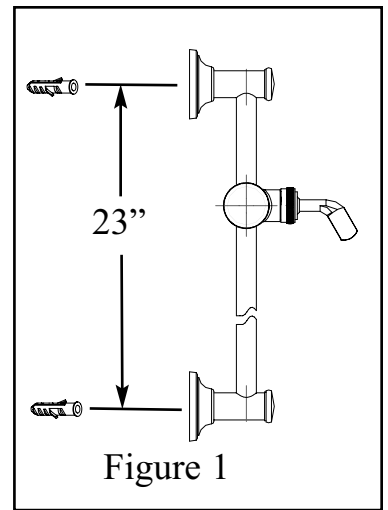

Figure 2
- Re-assemble Diverter NUT (5), STEM (4) and NIPPLE (3).
- Apply thread sealant to the 1/2 NPT CAP (6) and thread onto the unused “OUT” port 2 or 3.
- Diverter valve is used with a mixed (hot & cold) input, (i.e. Balance Pressure or Thermo Valve). Position valve with the port marked “IN” in the down position. (Connect mixed supply to “IN” port only.) See **Figure 2**.
- Apply thread sealant to supply from shower mixing VALVE (3). Firmly tighten into diverter valve lower port marked “IN”. No soldering should be performed within 4” minimum of valve ports. Whenever possible it is best to perform all soldering/brazing operations on piping prior to attachment to valve.
- Apply thread sealant to SHOWER RISER (4) and attach to valve port marked “1”.
- Apply thread sealant to HAND SHOWER SUPPLY (5) and attach to valve open port, “2” or “3”.
- Place SLIDE BAR (2) into END POST (3). Note: Large diameter hole in SLIDE BAR (2) must face out as shown in **Figure 2.**
- Place POST (3) onto ESCUTCHEON (4), insert SCREW (5) and securely tighten into ANCHOR (1) as shown in **Figure 2.**
- Press END CAP (6) into end of POST (3).